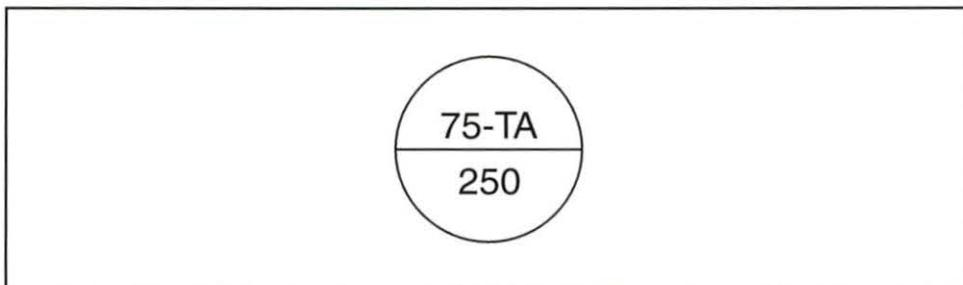

Figure 83. Instrument Tag
- 9. Perform the following substeps to interpret the information on the instrument tag in figure 83.
- A. Determine the type of device indicated by the tag in figure 83.
- B. Determine where the device is located, according to the tag in figure 83.
- C. Determine what the device is measuring, according to the tag in figure 83.
- D. Determine the first modifier of the tag in figure 83.
- E. Determine the loop in which the device is located, according to the tag in figure 83.
- F. Determine the area in which the device is located, according to the tag in figure 83.
You should find that the device tag in figure 83 represents a field discrete instrument, mounted in a primary location. You should also find that the device is measuring temperature and that the modifier indicates an alarm function. Finally, the device is located in loop 250 and area 75.